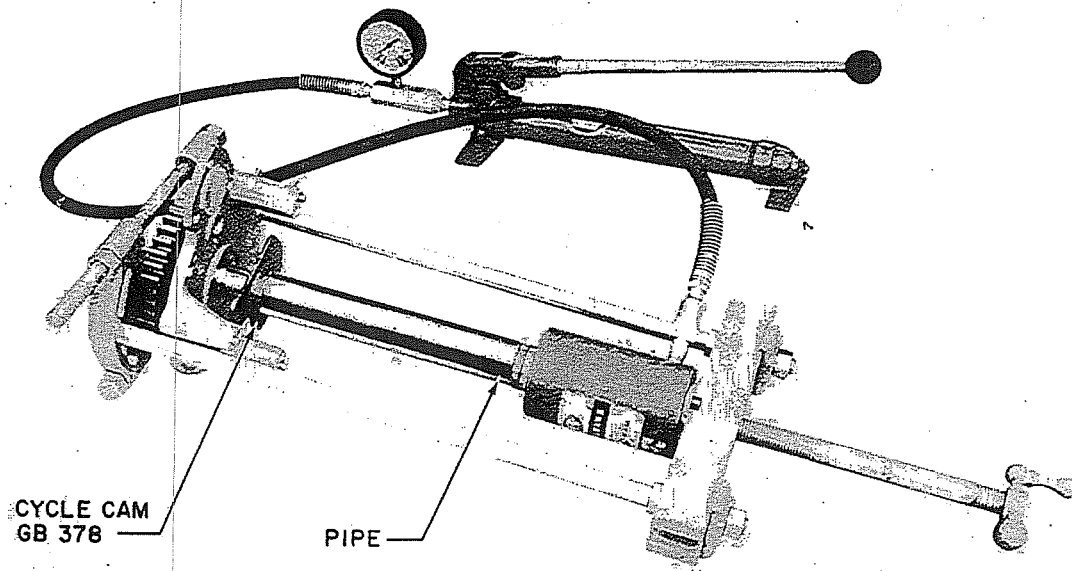

Figure 33. 1 to 1 Shaft, Installation of Cycle Cam GB378
- S. Secure the bearing pulling attachment behind Spur Gear GB368. Use pipe (1-1/2-inch inner diameter x 1-3/4-inch outer diameter x 9-1/2 inches long) to press Inner Extended Cycle Cam GB378 onto Shaft GB381 (figure 33). The shaft should be cleaned and lubricated prior to assembly.